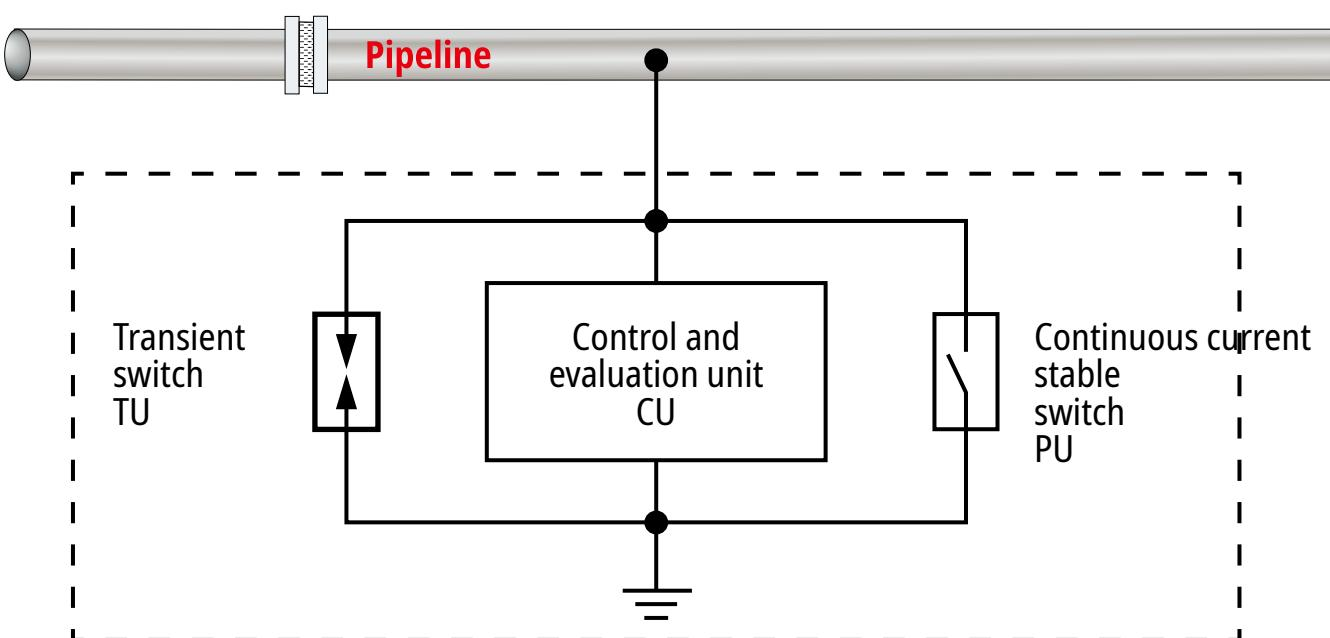
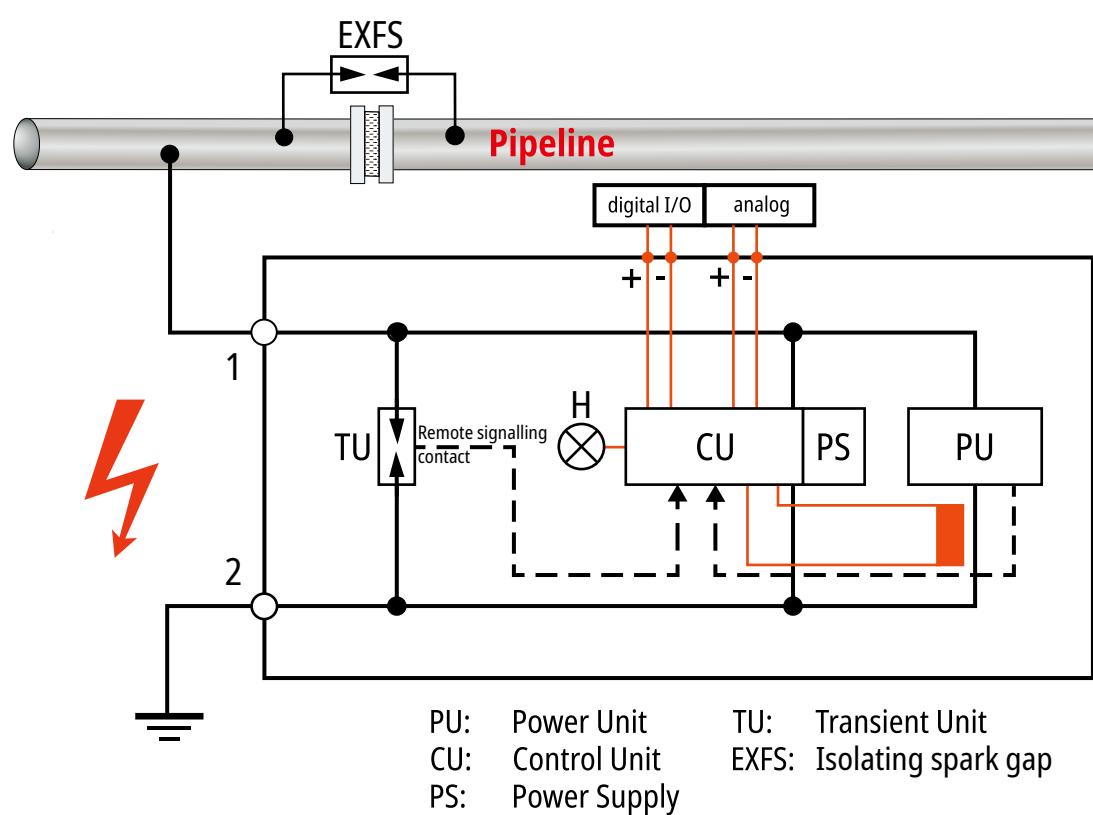

Fig. 2.1 Functional groups
Fig. 2.2 Functional unit
The **voltage decoupling device** type **VCSD** – **V**oltage-**c**ontrolled **s**mart **d**ecoupling device is used in widely distributed and highly networked electric systems which are influenced by external voltages from various sources of interference (e.g. high-voltage systems, traction power supply systems, low-voltage systems, lightning activity) (see also Fig. 2.1 and Fig. 2.2, page 6).
The evaluation unit (CU) evaluates different sensor signals, thus coordinating the interaction of the individual functional units (see Fig. 2.2).